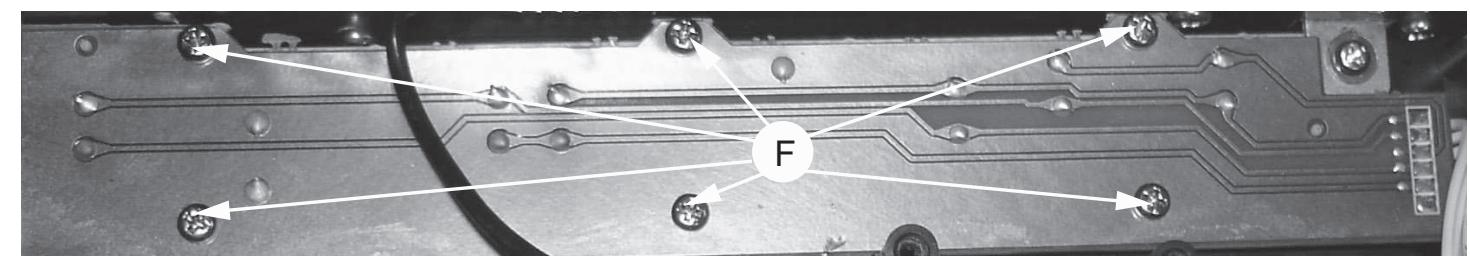

figure 6
- 2) Loosen 6 screws "F" at the VFD Panel as shown in figure 6.